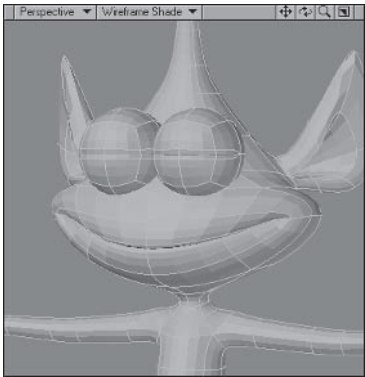

Figure 3.5-4. Finished smile morph. I've moved the cheeks and chin up a bit and enhanced the corners of the mouth by moving them up and back.
4. Continue tweaking points until the morph looks like Figure 3.5-4, or until you're happy with it.